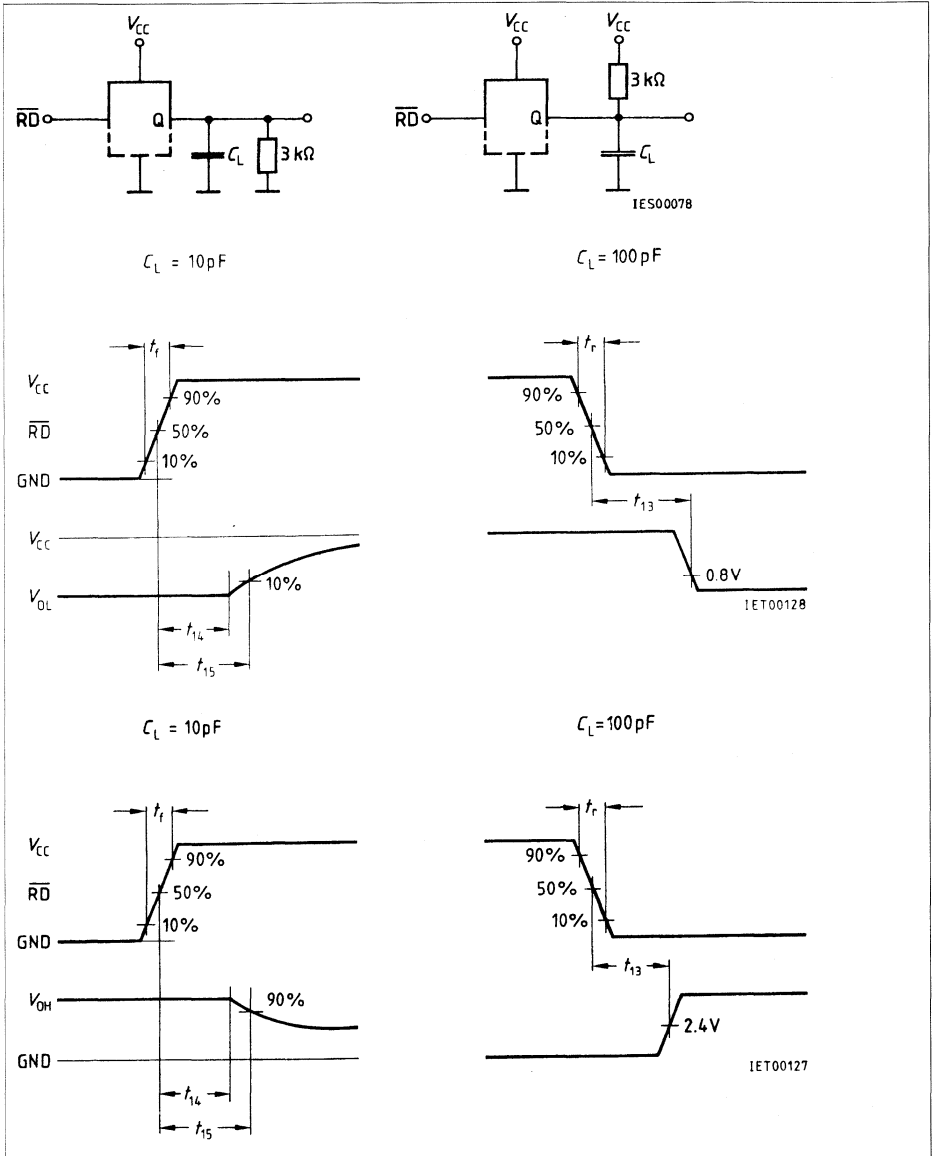

Figure 11
- 3) t_{13} is measured with the load circuits of **figure 11** and defined as the time required for an output to cross 0.8 V or 2.4 V.
- 4) t_{14} is defined as the time required for the data lines to change three-state, **see figure 11**.
- 5) t_{15} is defined as the time required for the data lines to change 10%/90 % when loaded with the circuits of **figure 11**.